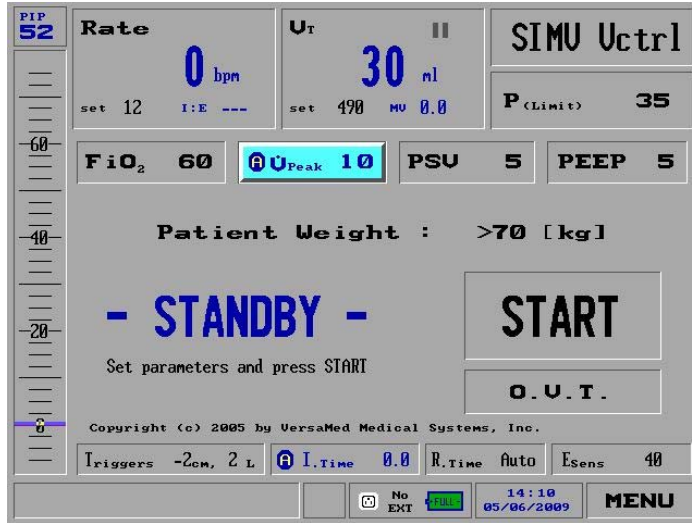

Figure 48: Peak Flow Selected on the Main Screen
1. Select the **Peak Flow** setting from the second row of options on the **Main** screen (Figure 48):